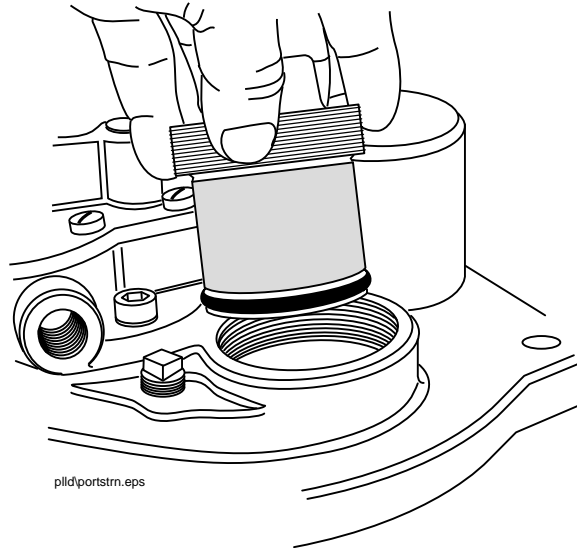

Figure 7. Pump Port Strainer
2. Remove the pump port strainer from the mechanical line leak port on the submersible pump [Figure 7 on page 25].
4. Install a new or cleaned strainer in the mechanical line leak detector port [Figure 7].